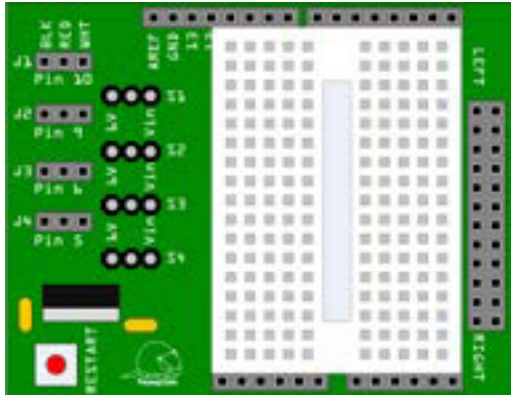

Figure 15-3. Arduino™ motor controller shield
2. Assemble the motor controller shield by following the instructions in "How To Make and Assemble a Motor Controller." Viewed from the top, this shield will look like Figure 15-3.
The circuit board shown in Figure 15-3 is green, but the actual color of your circuit board may be different. Circuit boards manufactured by OSH Park, for example, are purple.